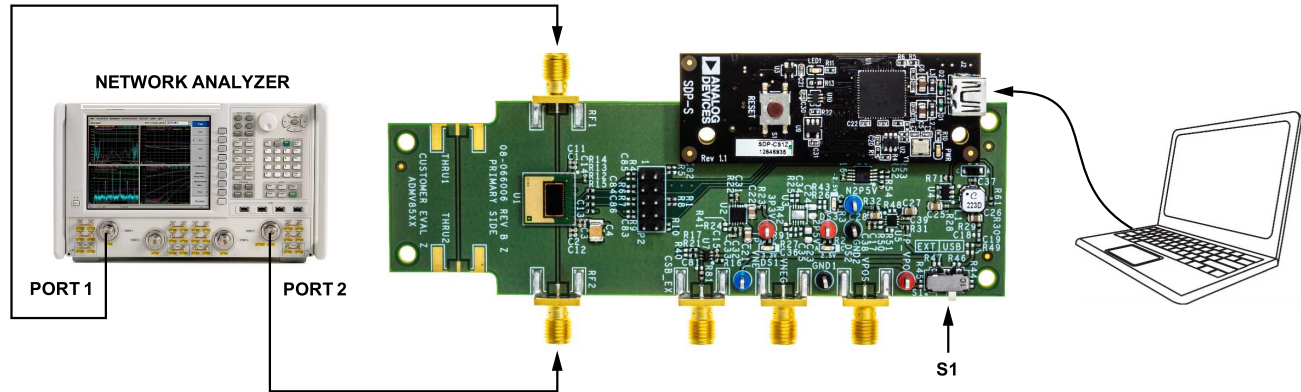

Figure 2. ADMV8505-EVALZ Lab Bench Setup
To power the ADMV8505-EVALZ using the 5 V USB supply, slide the S1 switch to select USB (as shown in Figure 2) to power the on-board negative voltage generator and LDO regulators. Alternatively, the ADMV8505-EVALZ can be powered externally by sliding the S1 switch to select EXT and then connecting the power supplies to
Figure 2 shows an example lab bench setup for the ADMV8505-EVALZ. To observe the filter response from the ADMV8505-EVALZ, connect the RF1 and RF2 ports to a network analyzer (or similar instrument). Typically, RF1 and RF2 are connected to Port 1 and Port 2 on the network analyzer, as shown in Figure 2.
1. Connect the RF1 and RF2 ports to a network analyzer (or a similar instrument). Typically, RF1 and RF2 are connected to Port 1 and Port 2 on the network analyzer, as shown in Figure 2.
3. On the ADMV8505-EVALZ, slide the S1 switch to select USB (as shown in Figure 2) to power the ADMV8505-EVALZ from the 5 V USB supply voltage from the PC via the SDP-S.